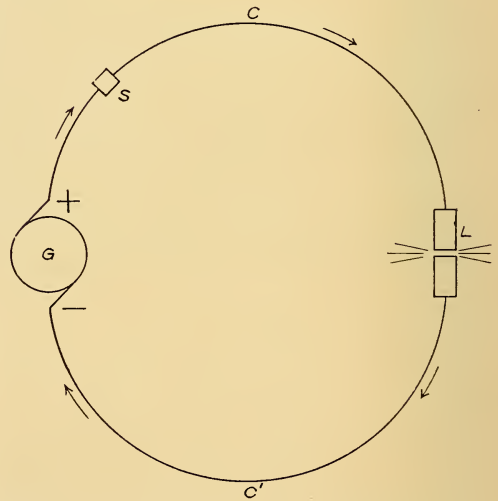

FIG. 4. A CIRCUIT IS NOT NECESSARILY ROUND LIKE THIS.
A difficulty may possibly exist in the minds of some of my readers as to the exact meaning of the word circuit. Some may think that the word circuit necessarily implies the idea of a circular path, and that the current on leaving the generator passes through the wires connecting it with the receptive device, and returns to the source in the path represented in Fig. 4, where, as before, (G) represents the generator, (S) the switch, (L) the arc lamp, and (C) and (C') the circuit wires.